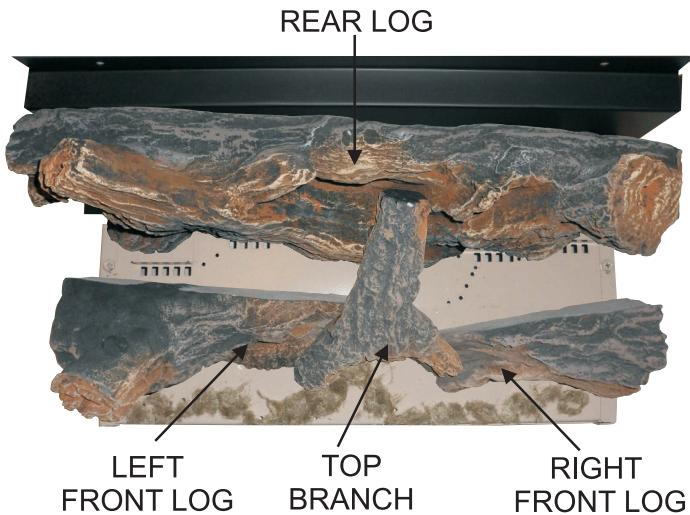

Figure 25 - Log Placement - Top View (DVP20MS Shown)
5. Place ember material on front burner ports as shown in **Figure 25**.
\*Place ember material on front burner ports as shown in **Figure 25**.